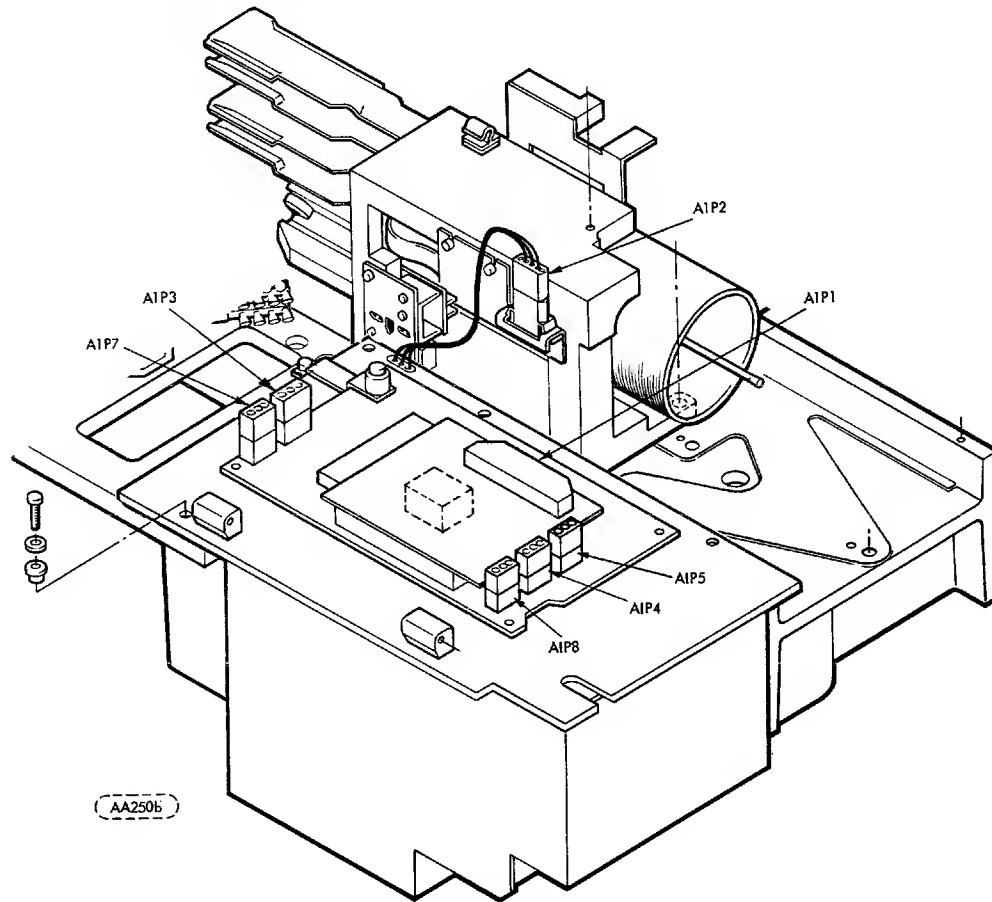

FIGURE 6-13. POWER SUPPLY ASSEMBLY
9. Disconnect A1P2, A1P3 and A1P7 (see Figure 6-13).
8. Disconnect A1P1, A1P2, A1P3, A1P4, A1P7 and A1P8 (see Figure 6-13).